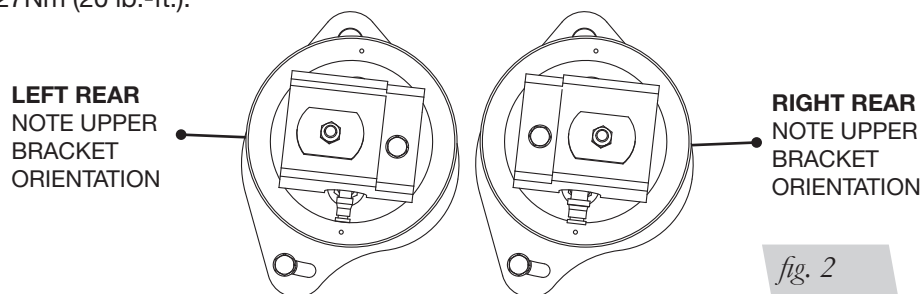

fig. 2
NOTE: See figure 2 to view the left and right upper bracket orientation.
2. Insert flat head screw (B) through the rear bottom bracket (A) prior to installing the air spring to the bracket.
3. Apply a roll plate (D) to the bottom side of the air spring (E) with the lower air spring bolt holes accessible. Align these holes with the bottom bracket holes (make sure the flat head screw [B] is still installed) and thread flat head screws (C) through the bottom bracket and into the air spring. Torque to 27Nm (20 lb.-ft.).
4. Attach the corresponding upper bracket (left [H] and right [G] specific) and roll plate to the air spring using the supplied fine thread hex bolts (I) and lock washers (J). Please note the upper bracket orientation as shown in figure 2. Torque bolts to 27Nm (20 lb.-ft.).